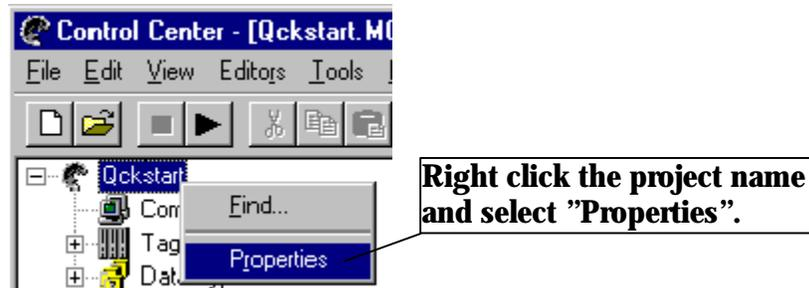

Figure 7.1 WinCC Project "QckStart"; Accessing the Project Properties
1. In the Control Center, right click your Project Name, "Qckstart", to access the project properties. Refer to Figure 7.1.